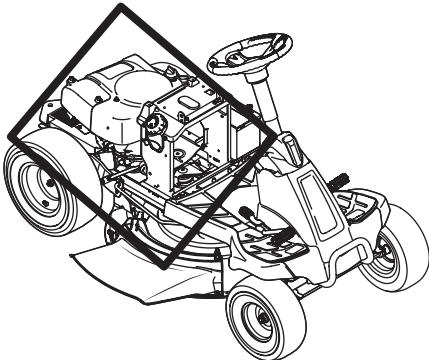

Figure 21
- Clean under the hood. Exhaust manifold, around fuses, all wiring and harnesses, muffler pipe, muffler shield, engine intake screens and cooling fins, etc. See Figure 21.